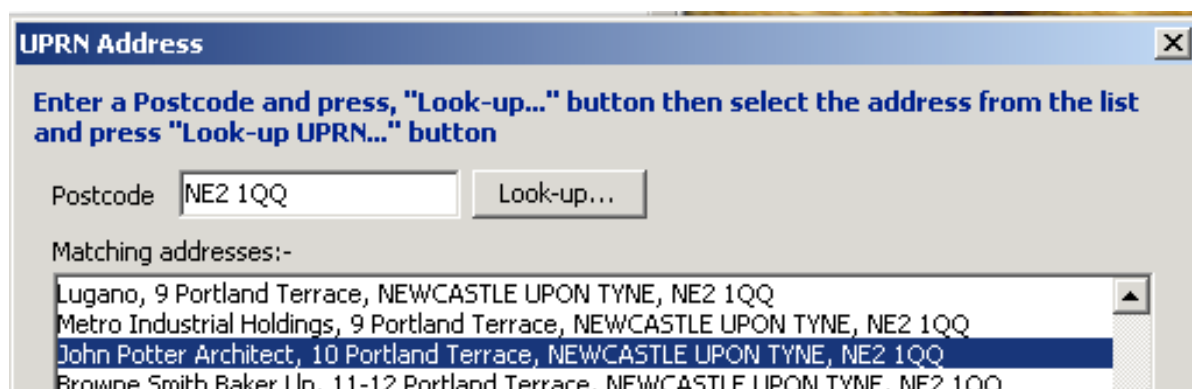

Figure 3.2: Looking up the UPRN
4. Click the **get UPRN** button. The **UPRN Address** dialogue opens, with the post code from the **Project Information** dialogue in the **Postcode** box (Figure 3.2).